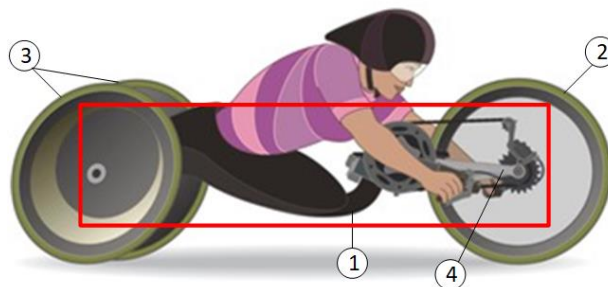

Figure 2: Main components of a handcycle consisting of a frame (1), front wheel (2), rear wheels (3), and transmission system (4).
Here we describe the product that we have in mind and the specific parts where we seek for your help considering your experience with mechanical system design. **Fig. 2** shows a raw ide of the system we have in mind where 4 main components are identified namely: the frame including a seat (1), front wheel (2), rear wheels (3), and the transmission system (4). We note that we have purposely kept the design as simple as possible to give you the freedom to use your imagination and propose any modifications you estimate convenient. Your help is needed to design the transmission system and frame (including seat) as highlighted by the red box in **Fig. 2**. The wheels will be purchased from a specialized company. We are particularly interested in adapting these components for children between 9 to 17 years old interested in training for competitive handcyle racing.